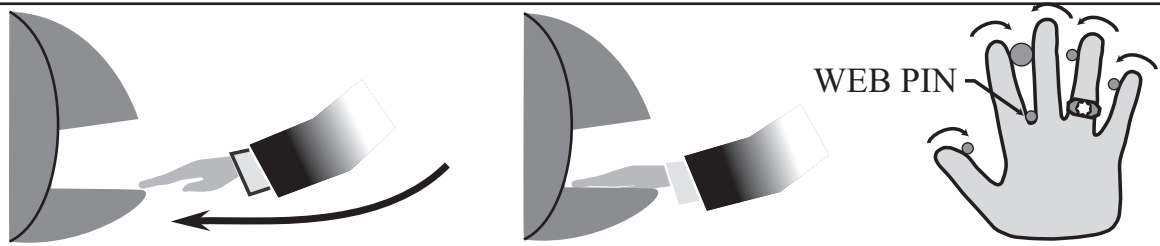

Figure 8-2: Placing Your Hand on the Platen
**Proper Hand Placement** For correct, consistent hand reads it is very important that your hand is placed on the platen in the same manner every time. The following rules apply for proper hand placement on the platen also refer to "Figure 8-2" on page 65.